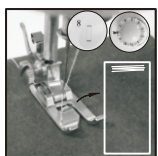

Fig. 17
- (1) Put the cloth under the presser foot and lower the presser foot on the cloth where you need to sew buttonhole, then choose the stitch pattern #8.
- (2) Turn on the switch and sew 5-6 stitch in low speed, then turn off the switch (Fig. 17).